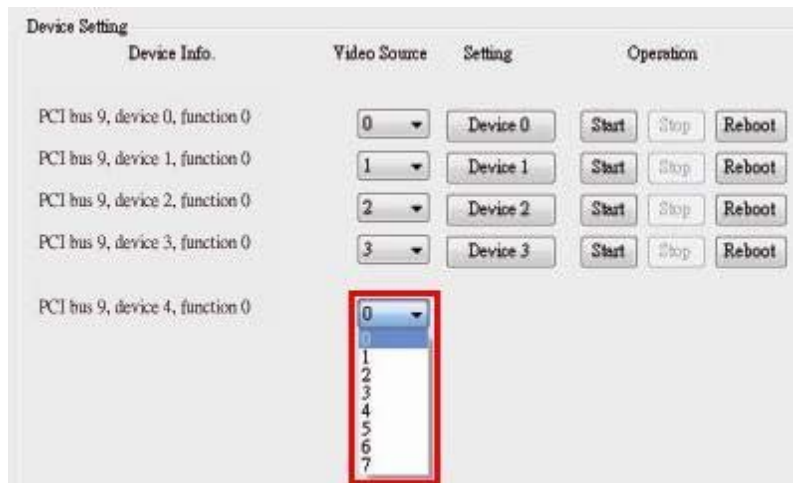

Figure 4-9: Select Transmitter Device for HDC-304E
- Step 4:** **This step is only required for the HDC-302E.** Select the transmitter bus (0 or 1) (**Figure 4-9**). For example, to view the video input source 1 on HDMI display device, select the transmitter bus 0. Please refer to the following table:
Step 5: This step is only required for the HDC-304E. Select the transmitter bus from 0 to 3 (Figure 4-9). For example, to view the video input source 1 on HDMI display device, select the transmitter bus 0. Please refer to the following table: